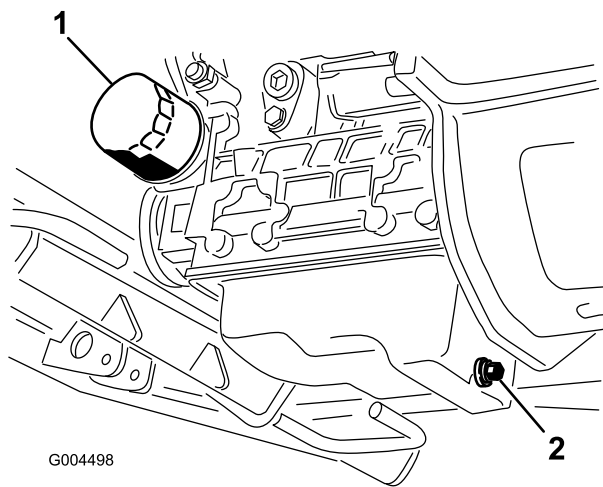

Figure 34
3. Set a drain pan under the oil pan and in line with the drain plug (Figure 34).
6. Remove and replace the oil filter (Figure 34).